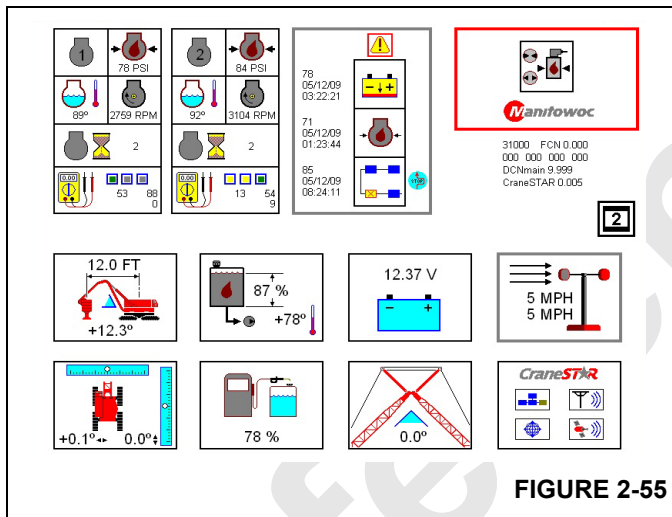

FIGURE 2-55
See Figure 2-55 for the following procedure.
3. Press  or  until the Pressure Test and Calibration Screen icon appears in the screen selection box (Figure 2-55).